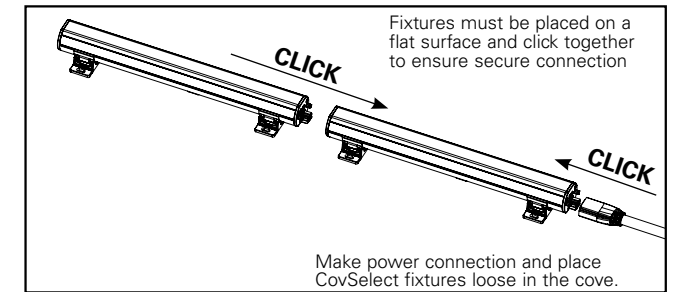
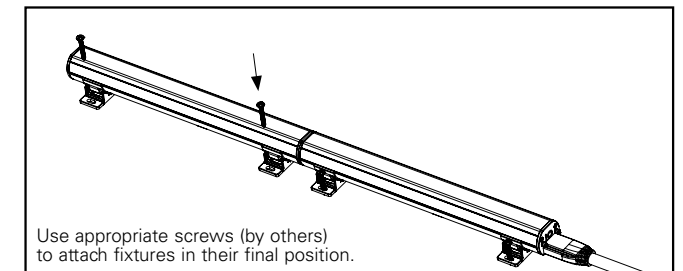

Figure 6
Figure 7
8. Fixtures must be placed on a flat surface before connecting them together. Connect fixtures together along run. Fixtures must **CLICK** together to ensure secure connection of fixtures along the run (see Figure 6). After each fixture connection is completed, fixture mounts must be secured to the solid surface (Figure 7) using appropriate screws (by others) before connecting the next fixture in the run.
9. Make beginning of run power connection as shown in Figure 6 and place CovSelect fixtures loose on flat surface of cove until run is completed.